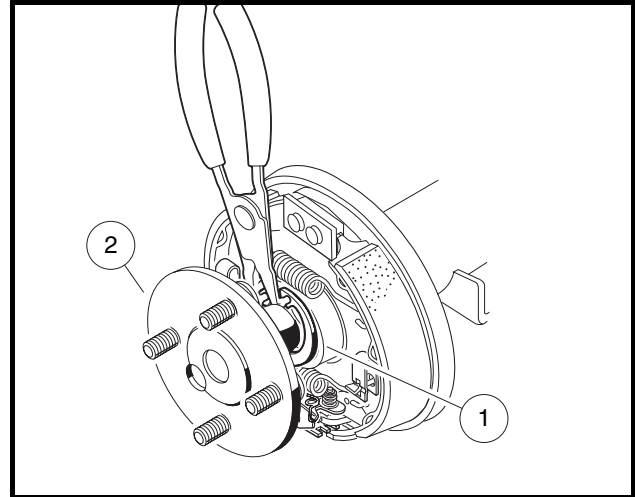

Figure 6-2 Remove Axle Retaining Ring
- 6.1. Using 90° snap ring pliers (CCI P/N 1012560), remove the axle retaining ring (1) (Figure 6-2, Page 6-2).
- 6.2. Pull the axle shaft (2) from the axle tube (Figure 6-2, Page 6-2).
7. Install the axle shaft (2) into the axle tube and install the retaining ring (1) (**Figure 6-2, Page 6-2**). See following **WARNING** and **CAUTION**.
- 5.1. Using 90° snap ring pliers (CCI P/N 1012560), remove the axle retaining ring (1) (**Figure 6-2, Page 6-2**).
- 5.2. Pull the axle shaft (2) from the axle tube (**Figure 6-2, Page 6-2**).